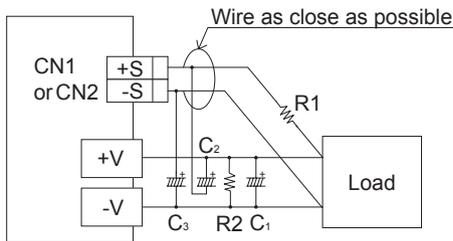

Fig. 2.4 When using remote sensing function
- Please see Fig. 2.4 if you use the remote sensing function.
- ① Wire carefully. When a connection of a load line becomes loose (due to such factors as loose screw), the load current flows to the sensing line and internal circuits of the power supply may be damaged.
- ② Use a sufficiently thick wire to connect between the power supply and the load and keep the line drop at 0.3V or below.
- ③ Use a twisted pair wire or a shielded wire as the sensing line.
- ④ Do not draw the output current from +S or -S.
- ⑤ When the remote sensing function is used, the output voltage of the power supply may show an oscillating waveform or the output voltage may dramatically fluctuate because of an impedance of wiring and load conditions. Please check and evaluate carefully before using the remote sensing function. If the output voltage becomes unstable, we suggest you to try the followings.
- ⑥ When connected to a pulse load, the internal protection activates depending on the frequency. If the protection activates, we suggest you to try the followings.